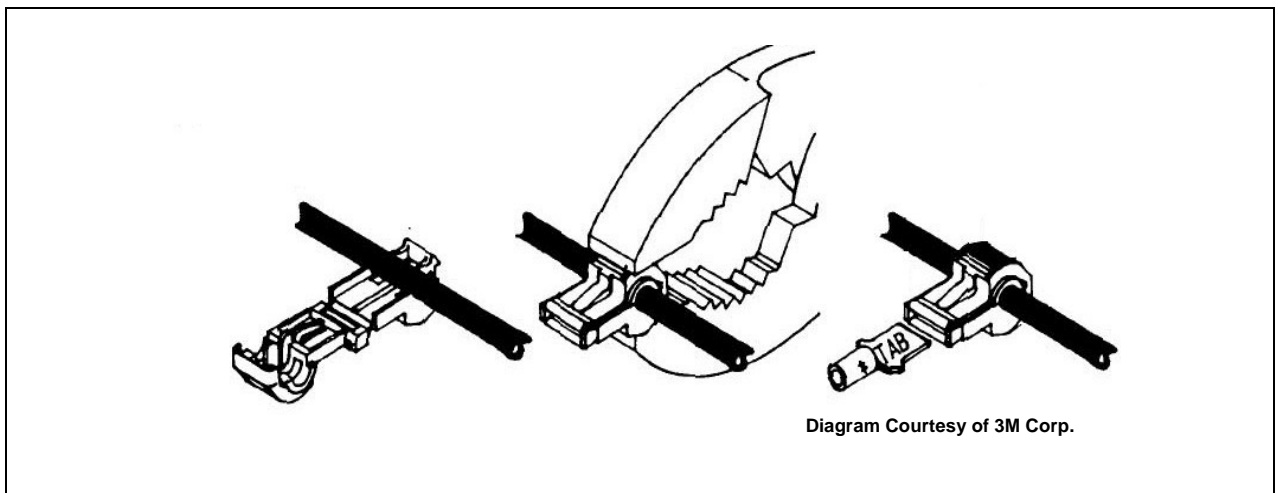

Figure 9-9: Attaching T-Tap Quick-Disconnect Terminals
2. Route the white wire of the control head's DC Power Cable from the back of the head to an area near the switched ignition power source. At the back of the head, be sure to maintain a cable service loop of at least six (6) inches.
9. Attach the selected T-tap quick-disconnect terminal by fitting the wire into its wire groove and snapping the two halves together with a pair of pliers as shown in Figure 9-9.